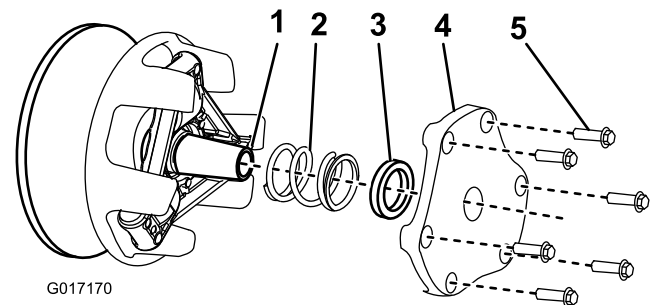

Figure 34
4. Set aside the cover, spacer, and spring (Figure 34).